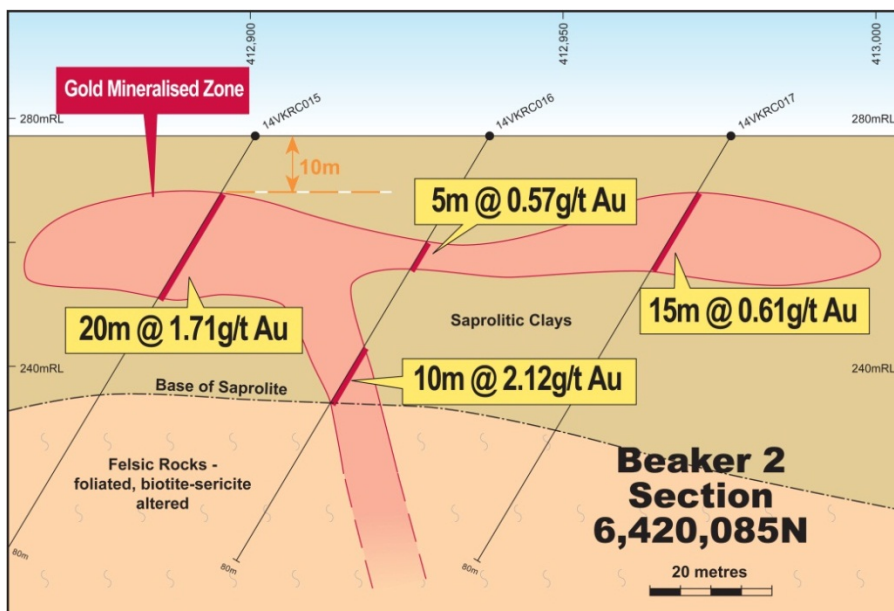

Figure 1 Beaker 2 Cross Section 6,420,085N
- Significant wide zones of near surface oxide mineralisation intersected at Beaker 2 (see Figure 1) including:
Wide zones of shallow (10m vertical depth) oxide mineralisation (Figure 1 and Table 1) were intersected at Beaker 2 including: